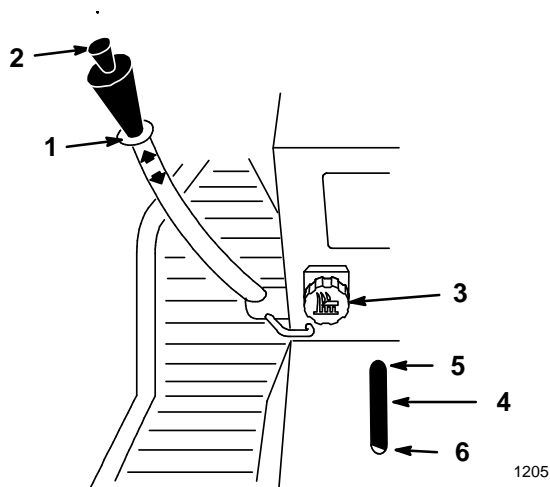

Figure 9
The attachment lift lever (Fig. 9) is used to raise and lower various attachments.
The Dial-A-Height control (Fig. 9) is used to limit the downward travel of the attachment. The Dial-A-Height knob is rotated to change the location of this stop, up or down.
1. Raise the attachment lift lever: Refer to Raising Attachments. In the raised position the Dial-A-Height knob (Fig. 9) can be rotated to change the stop location. Turn clockwise to raise and counterclockwise to lower the height of the attachment.
2. The Dial-A-Height indicator (Fig. 9) will show the change, high to low, in attachment lift height as adjustment is made.